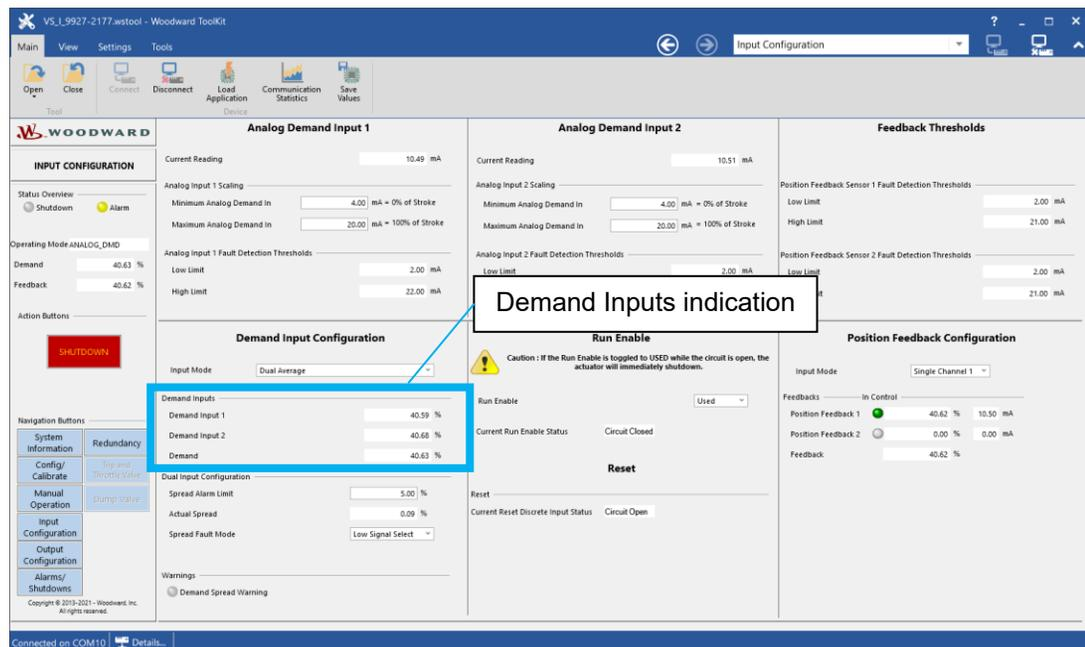

Figure 2-72. Input Configuration Screen
52. Perform verification and comparison of demands (Demand Input 1, Demand Input 2). Values recorded between the control system and the newly installed VariStroke **must be identical** per the Customer Service Tool Input Configuration screen (Figure 2-72), although very minor differences are expected. Register two readings to confirm the values are alive [notate result in Checklist: ID #9, #10, and #11, #12 if used].